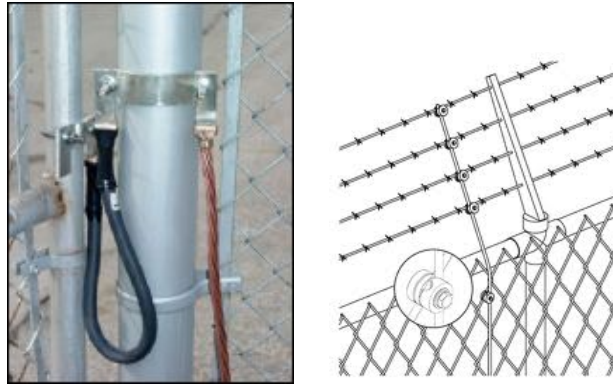

Figure 14: Fence grounding examples
- The fence itself should be grounded, see Figure 14. The resistance to the ground should be less than 20 Ohm. Consult the manufacturer of the fence on how to ground the fence. You should also consider the regulations in your country regarding the grounding protection of electrical equipment and buildings.